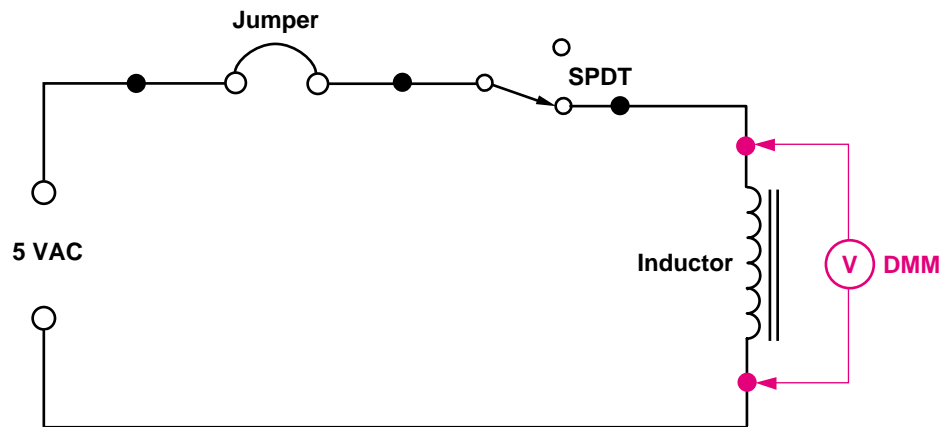

Figure 14
- ❑ 26. On the DMM panel, select the ACV function switch. Move the leads to the volts/ohms terminals of the DMM. Connect the leads from the DMM to the circuit as shown in Figure 14.